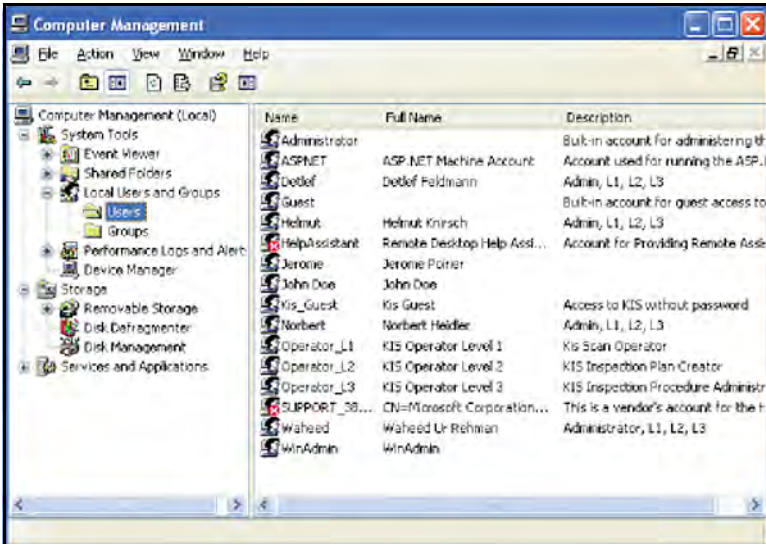

Figure 117: The Users List
- To assign a user to a specific group, return to Local Users and Groups (see *Figure 117* below).